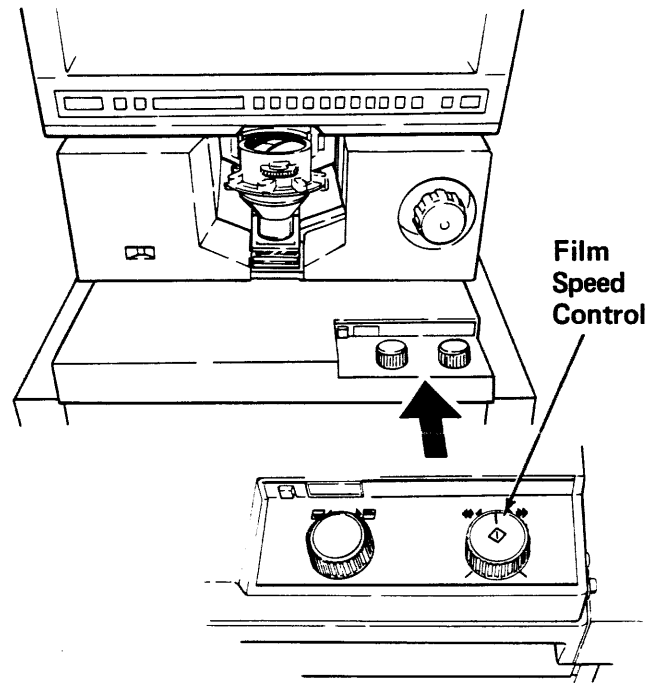

Figure 2-5A
1. Press the M-7530 Power Switch to "1" (ON). The Blower Motor (M5) should operate, the Brake Disk Solenoid (Y7) should activate releasing the Brake Disk, the Film Advance Motor (M2) should run, and the Film Chute solenoid (Y6) will activate pulling the Film in. Then, the Film Chute Solenoid (Y6) should deactivate pushing the Film Chute out, and the Brake Disk Solenoid (47) should deactivate stopping the Film Take Up Shaft.
3. Turn the Film Speed Control (Figure 2-5A) fully clockwise. The film should move quickly to the right as the Odometer continually displays an Increasing number. Near the end of the film, the film should slow down and stop, and the Lower Glass Flat should clamp.